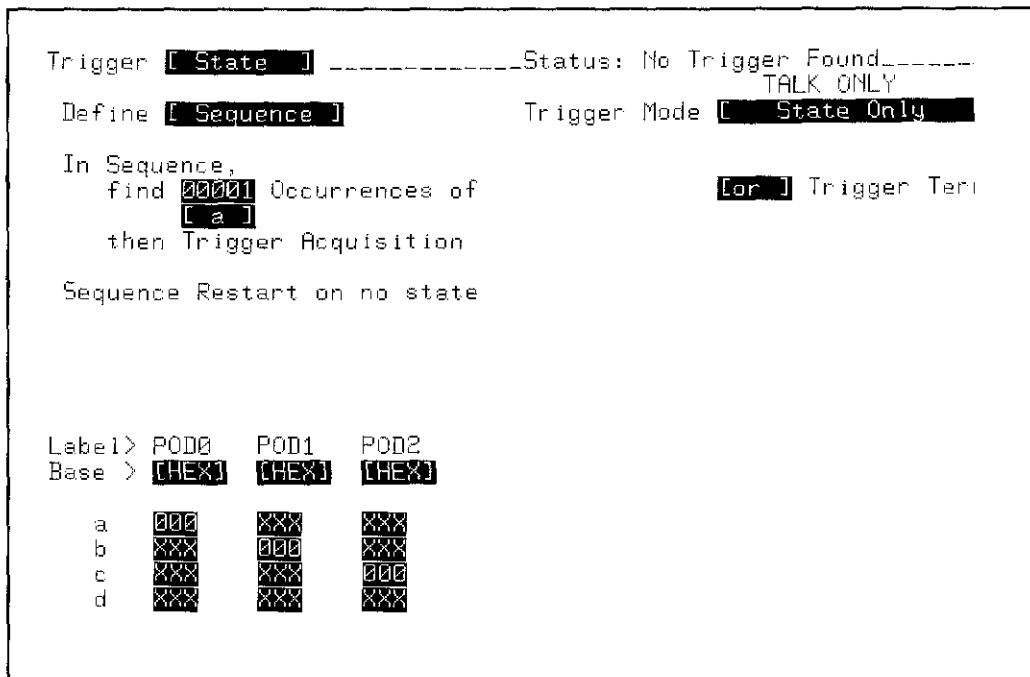

Figure 3-20. TRIGGER State / Define [Sequence] Menu
5. Configure the TRIGGER State / Define [Sequence] menu as shown in figure 3-20.
19. Reconfigure the TRIGGER State/Define [Sequence] menu in figure 3-20 with "Occurrences of [ b ]".
22. Reconfigure the TRIGGER State/Define [Sequence] menu in figure 3-20 with "Occurrences of [ c ]".